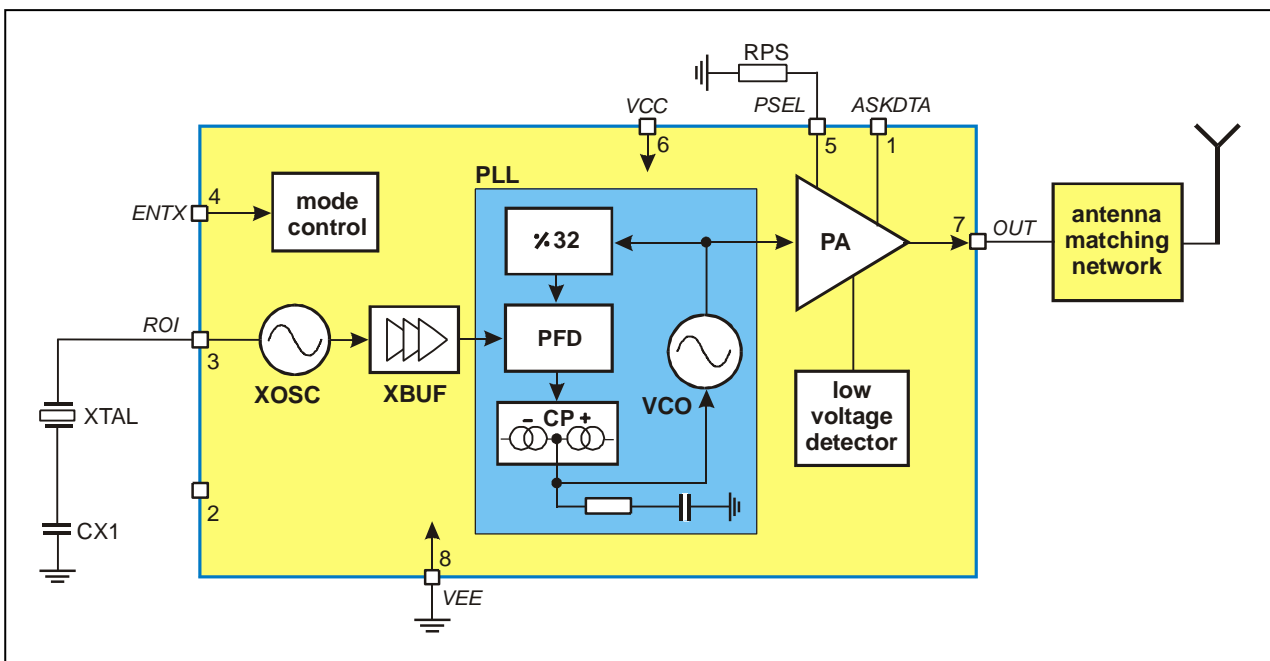

Fig. 1: Block diagram with external components
As depicted in Fig.1, the TH72012 transmitter consists of a fully integrated voltage-controlled oscillator (VCO), a divide-by-32 divider (div32), a phase-frequency detector (PFD) and a charge pump (CP). An internal loop filter determines the dynamic behavior of the PLL and suppresses reference spurious signals. A Colpitts crystal oscillator (XOSC) is used as the reference oscillator of a phase-locked loop (PLL) synthesizer. The VCO's output signal feeds the power amplifier (PA). The RF signal power P_{out} can be adjusted in four steps from $P_{out} = -12$ dBm to +10 dBm, either by changing the value of resistor RPS or by varying the voltage V_{PS} at pin PSEL. The open-collector output (OUT) can be used either to directly drive a loop antenna or to be matched to a 50Ohm load. Bandgap biasing ensures stable operation of the IC at a power supply range of 1.95 V to 5.5 V.